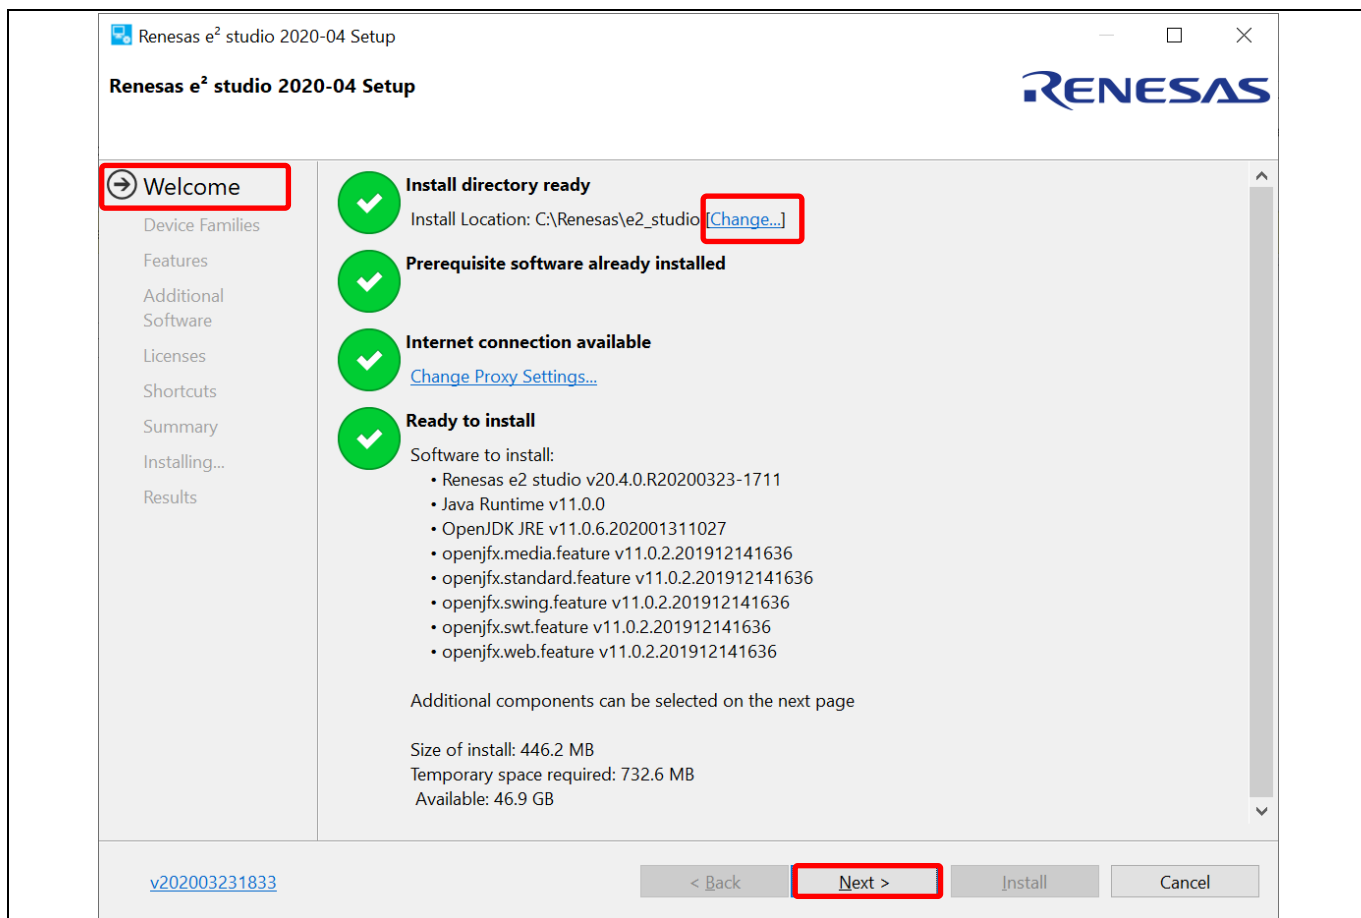

Figure 2-2 Installation of 64-bit e2 studio – Welcome page
2. By default, all the software components are selected in the [Available Updates] panel. This allows user to update all to the latest version. (An example is shown in Figure 2-2). Click the [Next] button to proceed.